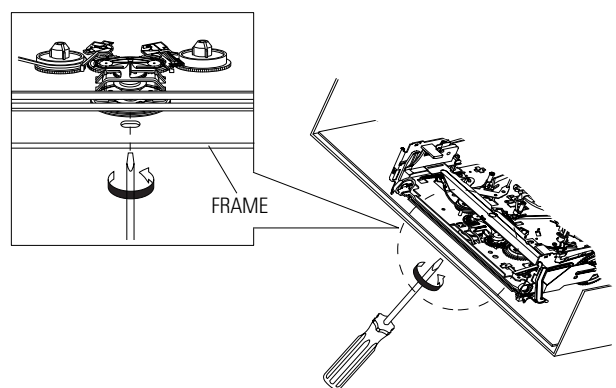

Fig. 3-41
- 2) When Slider S,T are approached in the position of unloading, rotate holder Clutch counterclockwise after inserting screw driver in the hole of frame's bottom in order to wind the unwinded tape. (Refer to Fig. 3-41)